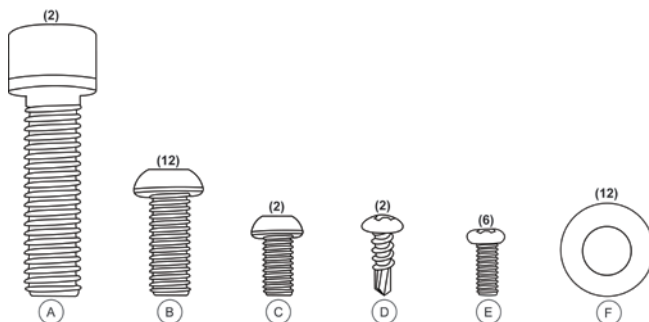
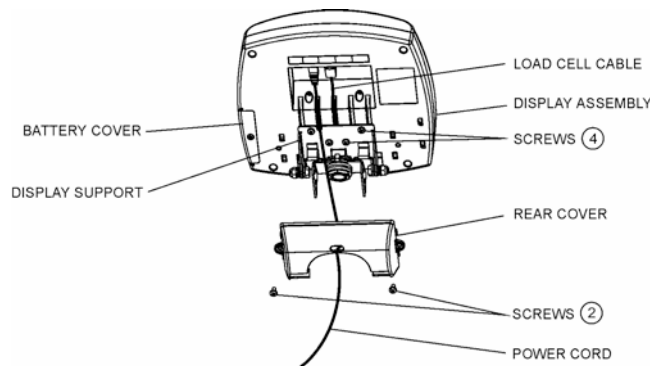

Figure 1
Figure 2
- (1) Small Rear Cover for Display Support
- Hardware for Assembly (Figure 1)
4. Slide the center handrail over the handrail supports on the base and fasten the handrail to the handrail supports using four (4) M8 1.25 x ¾ screws (B), four (4) M8 washers (F) and the medium Allen wrench (see Figure 1). Lightly tighten the screws. **DO NOT OVERTIGHTEN.** Wait to tighten until Step 6.
5. Attach the left / right side handrails to the center handrail and platform using the two (2) M10 1.5 x 1½ screws (A), eight (8) M8 1.25 x ¾ screws (B) with eight (8) M8 washers (F), and lightly tighten.
7. Attach the handle to the back of the center handrail using two (2) medium M6 1.0 x ½ screws (C), and tighten.
13. Rotate the display support 90° then position the Display Assembly close to the Display Support. Plug the load cell cable connector into the load cell port on the rear of the Display then insert and secure the cable into the center channel in the display. See Figure 2, above, for an illustration. **Note:** Do not attach the power cord at this point. Wait until Step 19.
15. Insert four (4) Phillips pan head M4 screws (E) into the metal display support, and tighten (see Figure 1).
16. Attach the Adapter Holder to the center rail using two (2) #8 x ½ (D) sheet metal screws, and tighten.
17. Connect the power adapter to the power port in the display, then insert and secure the cable into the exposed portion of the second channel from the left in the back of the display (see Figure 2, above). Hold the cord in place through the retaining slot on the rear cover and align the large rear cover tabs with the slots on the rear of the display assembly. Apply light pressure to snap the cover into place and secure it with two (2) Phillips pan head M4 screws (E). **Do not plug the scale into a power source until the scale is fully assembled.**